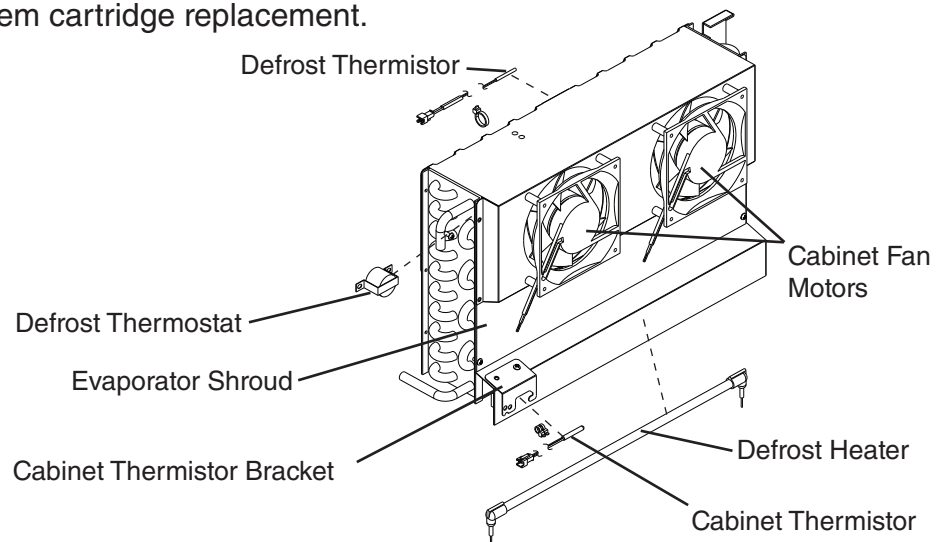

Fig. 5
- 2) Cut the cable tie holding the cabinet thermistor to the cabinet thermistor bracket. Remove the thermistor. See Fig. 5.
- 2) Remove the tape securing the defrost thermistor to the evaporator shroud. Cut the cable tie holding the defrost thermistor to the shroud. Remove the defrost thermistor. See Fig. 5.
- 2) Disconnect the defrost thermostat wires, then remove the defrost thermostat. See Fig. 5.